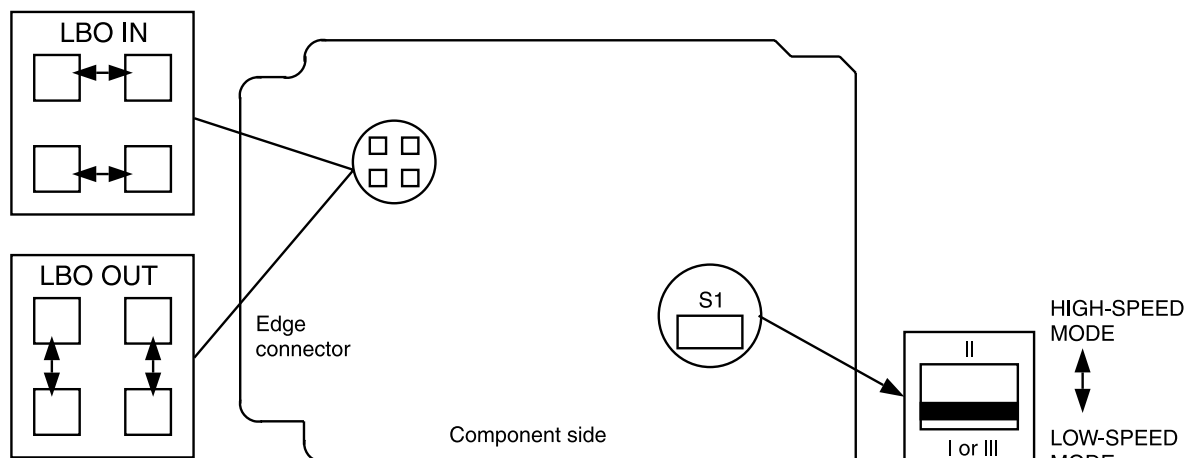

Figure 7 – BBG6 STS1E Line Build-Out Jumpers and Mode Switch
24. Install the **STS1E** option jumpers per Table L and Figure 7.